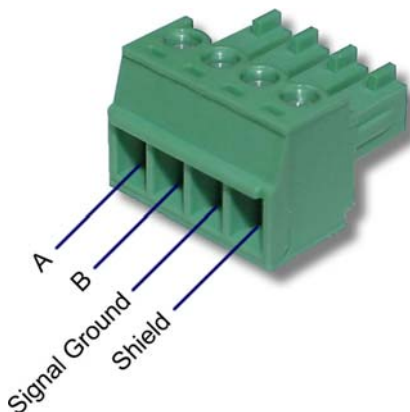

Figure 12: G7/Q7/H7/W7 RS-485 Terminal Block (CN3) Connections
- The Toshiba RS-485 terminal block connections for G7/Q7/H7/W7 drives are shown in Figure 12 for reference only. Because there are several possible